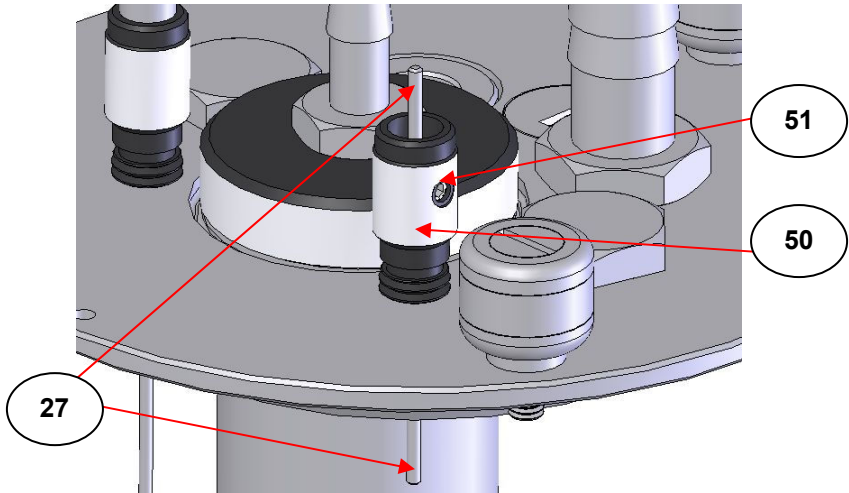

Fig 19. Screw Nut and Blanking Rod at Monitoring Thermocouple Port Position on the VT Cell Accessory
- 8.1. Remove the stainless steel blanking rod (27) from the port position (22) on the circular top plate of the dewar/cell holder assembly (1). The rod (27) is held into the screw nut fitting (50) by a grub screw (51). Unscrew the screw nut fitting (50) from the top plate using the
knurled surface and the rod (27) with its own ferrule (52) and sealing O-ring (53) will be removed from the port position (22). See Figs 19. and 20.